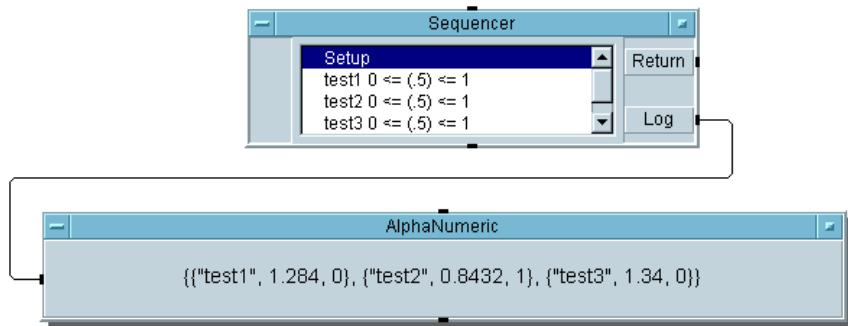

Figure 9-10. Passing data Using a Global Variable
- Save the program as seqdat2 and run it. When the pop-up panel appears, select a value and press OK. It should look like Figure 9-10.